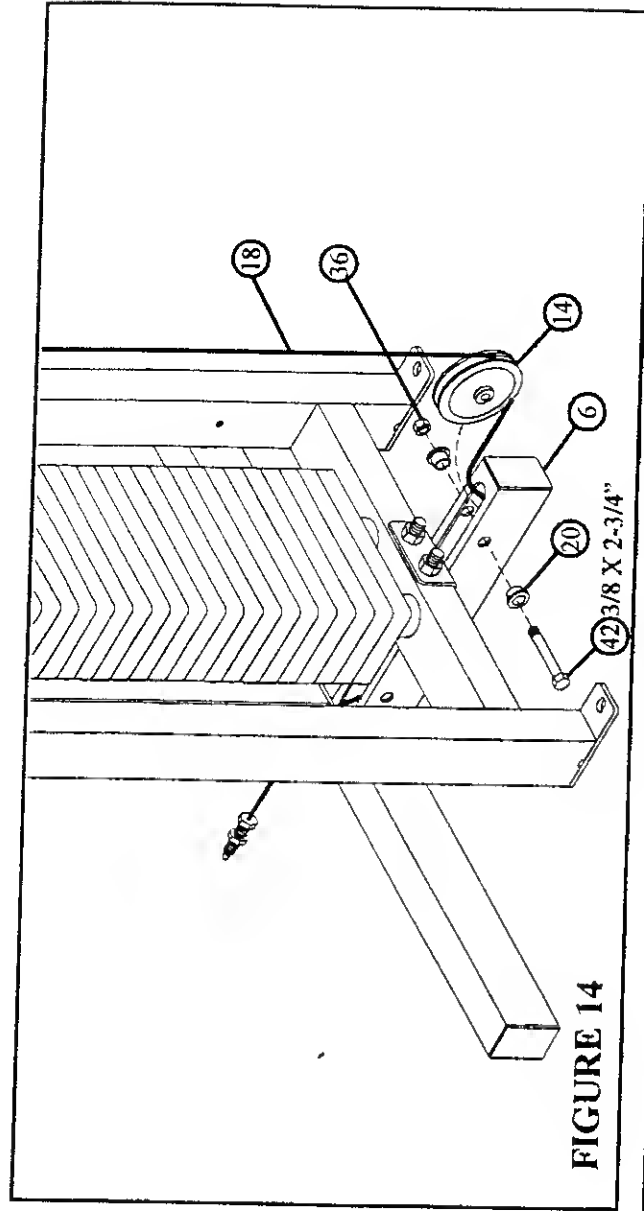

FIGURE 14
- Route the threaded end of the CABLE (18) through the LOWER PULLEY HOUSING (6) as shown in FIGURE 14.
- Slip one 3-1/2" PULLEY (14) over the CABLE (18) and SECURELY assemble the 3-1/2" PULLEY (14) to the LOWER PULLEY HOUSING (6) using one 3/8 X 2-3/4" BOLT (42), two 3/8" FLANGE SPACER (20) and one 3/8" LOCK NUT (36) as shown in FIGURE 14. (Make sure the CABLE is in the groove of the PULLEY.)